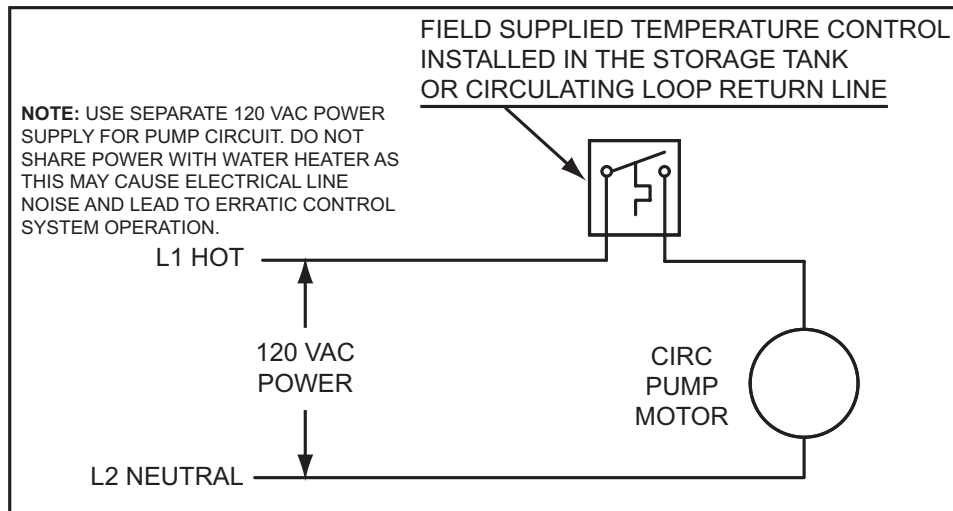
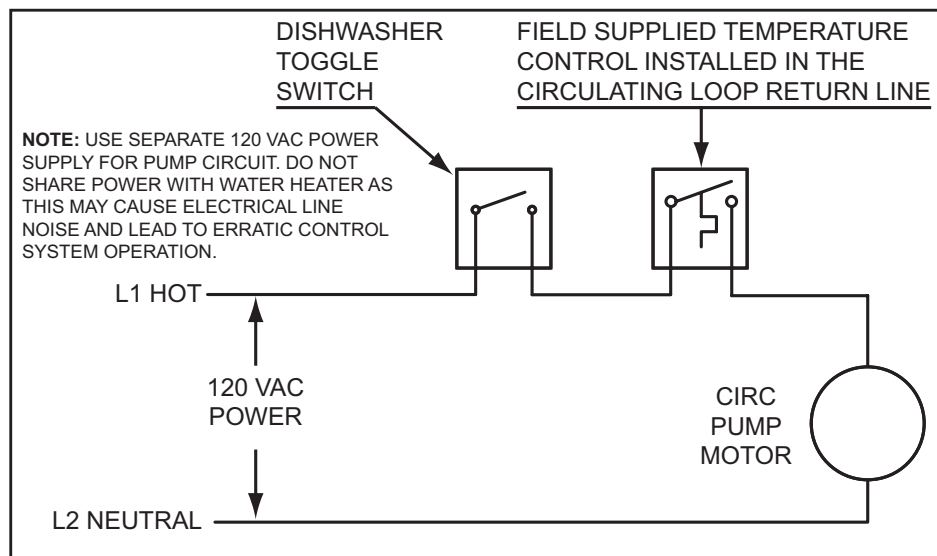

Figure 68
Figure 69
6. If a pump is being installed between a water heater and storage tank or on a building recirculation loop wire according to Figure 68 on page 70.
7. If a pump is being installed in a recirculation loop between the water heater and a commercial dishwasher wire according to Figure 68 or Figure 69 on page 70.